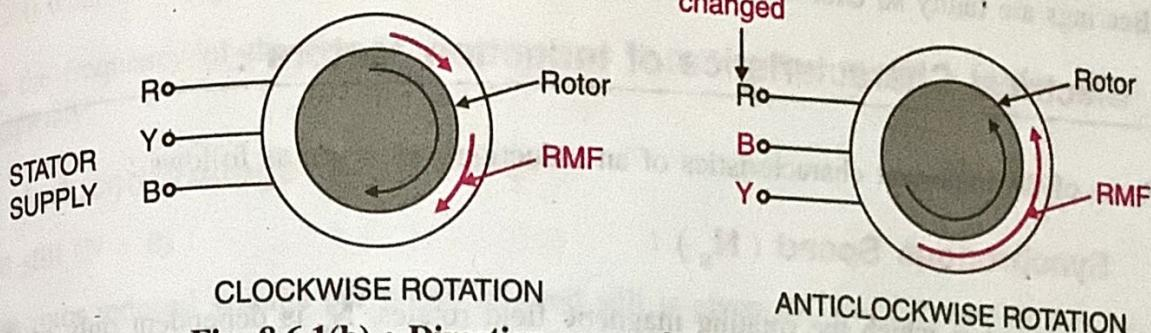

Fig. 8.6.1(b) : Direction reversal of induction motor
- To do so the phase sequence has to be changed by interchanging any two phases as shown in Fig. 8.6.1 (b).